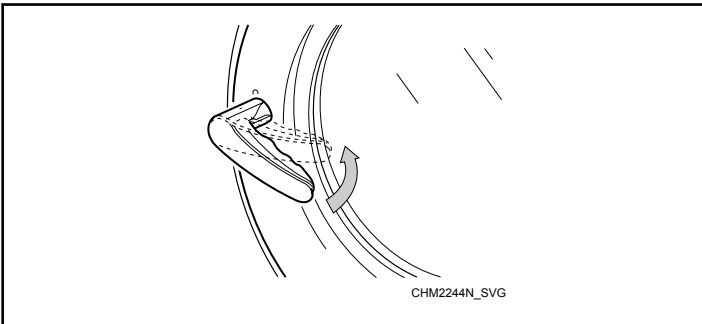

Figure 42
4. Close door and turn handle counter clockwise. Refer to *Figure 42*.